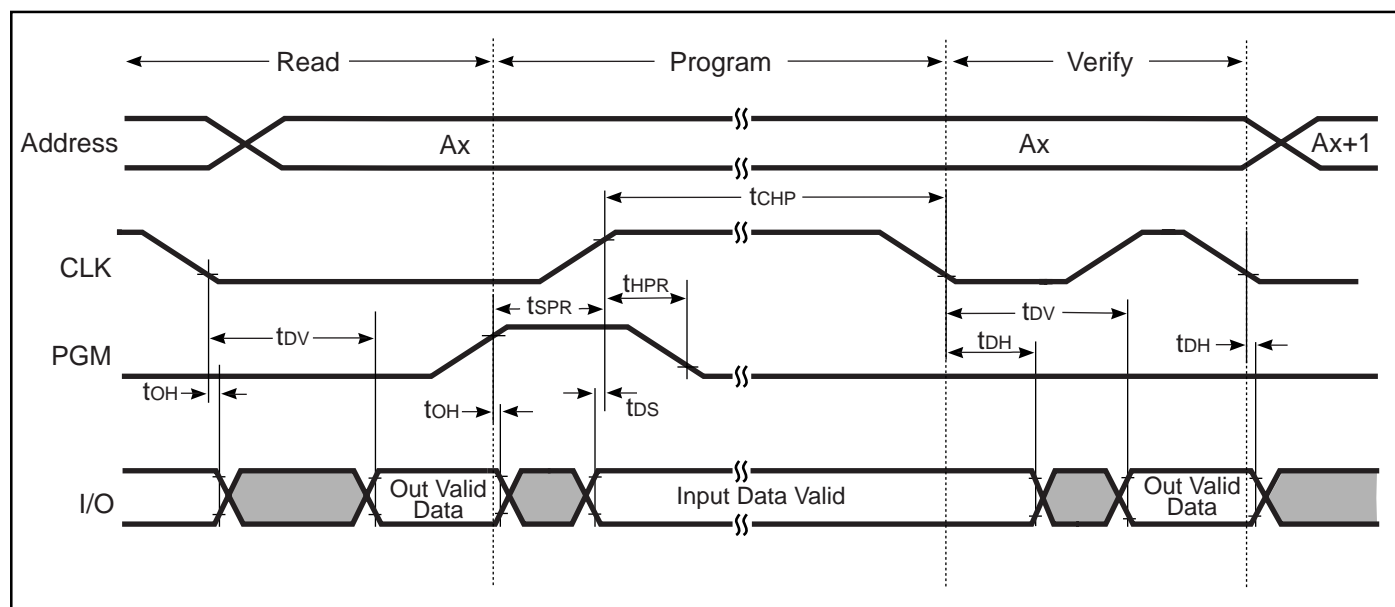

Figure 7. Write/Erase Timing Diagram
This flag is set to '1' after the Security Code (SC) is validated (see Figure 7). This flag protects an unpersonalized card from unauthorized usage. If the card has already been personalized, this flag provides master protection for the application zones (refer to Memory Access Table).
This flag is set to '1' after the Application Zone 1 Security Code (SC1) is validated (see Figure 7). This flag provides access protection for Application Zone 1 (refer to Memory Access Table).
This flag is set to '1' after the Application Zone 'n' Erase Key is validated (see Figure 7). This flag provides protection for Application Zone 'n' from unauthorized erasure of the zone (refer to Memory Access Table).